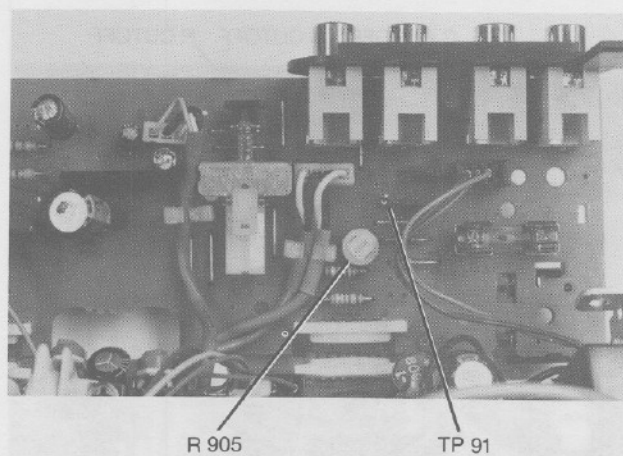

Figure 3-8. 11V adjustment
3. Measure the voltage at TP-91 to ground of the AUDIO and POW REG PWB. Refer to Figure 3-8. Adjust R905 for a reading of 11 V. Ground is the metal back plate.